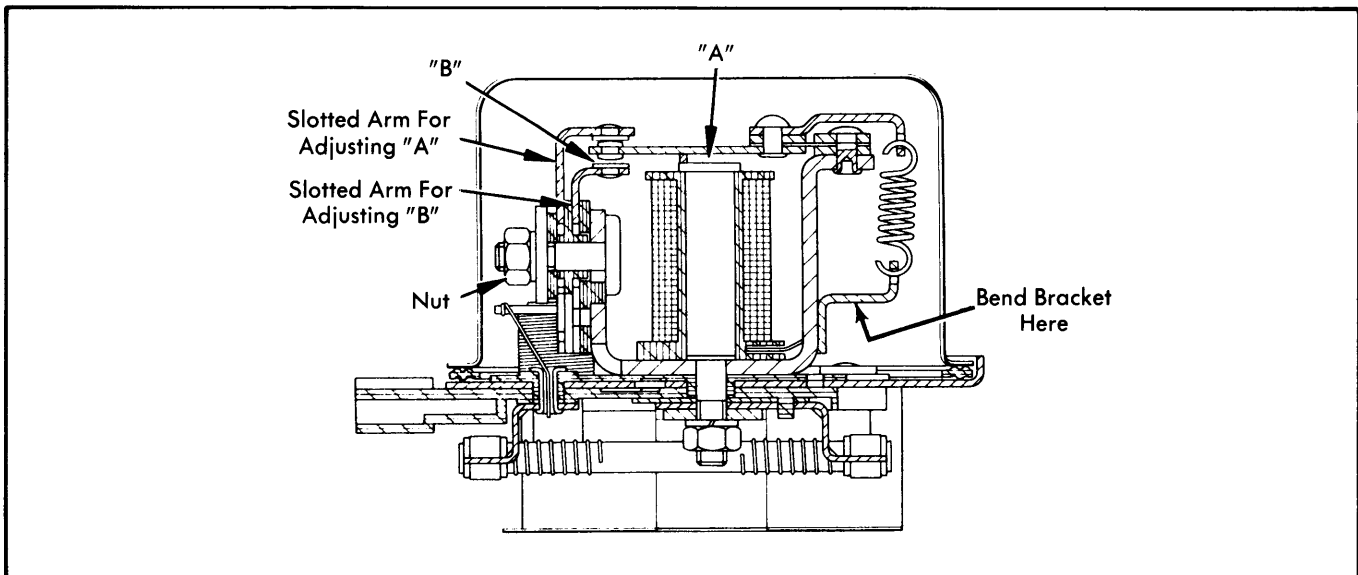

Fig. 3 Adjusting the Voltage Regulator
1) Disconnect positive battery cable then remove dust cover on voltage regulator. Inspect contact points for pitting and burn marks, then clean minor pitting and burn marks. **NOTE** — Extreme damage to points requires regulator replacement. Use a feeler gauge to check measurements at point "A" and "B" as shown in Fig. 3.
2) If clearances are not within specifications, remove the regulator from vehicle. Loosen nut and adjust gaps by moving the slotted arms indicated in Fig. 3. until clearances are within specifications. Tighten nut and recheck clearances.